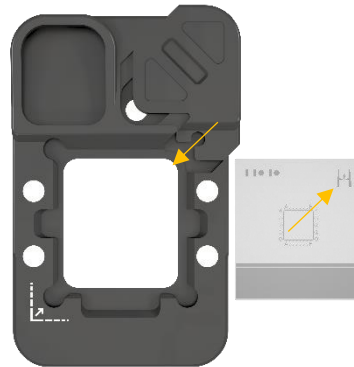

Figure 16: The correct orientation of the QUCHIP on the CC is such that the Interherence logo is on the top right side where the sliding key is located.
2. Take QuChip and carefully place it in the chip carrier (CC). The correct orientation of the QUCHIP relative to the chip carrier is shown in Figure 16. Lock the chip into place by securing it from the bottom as shown in the 1st step of Figure 17. Once the chip is appropriately situated, carefully re-engage the chip carrier lock, effectively securing the chip within the carrier.